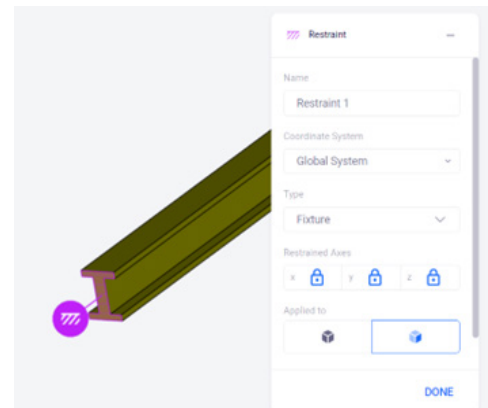

Figure 1: Using the restraint tool at one end of the beam
Step 1: Select the restraint tool and apply a fixture type of restraint on one end (see Figure 1).